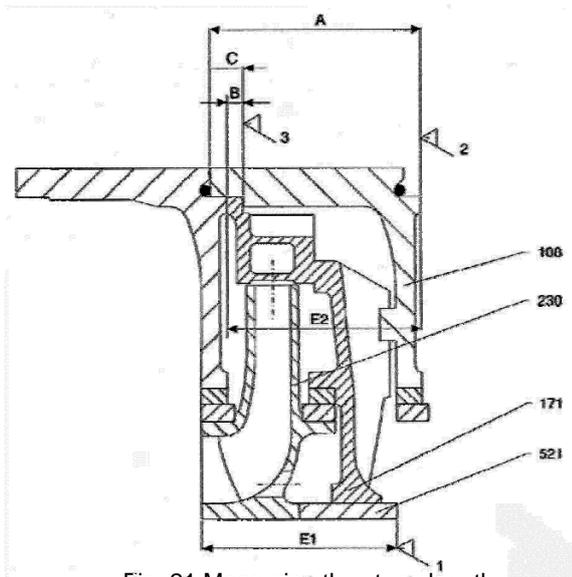

Fig. 21 Measuring the stage length.
Before reassembly of ring section pumps, the stage sleeve "E" of each stage casing (108) and of the associated impeller (230, 231) with stage sleeve (521) must be measured. Any discrepancy in lengths must be compensated by machining the stage sleeve (521) only, and the end result must be $E1 = E2$. (See fig. 21).